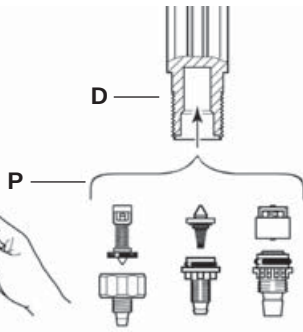

Fig. 17
- Pull downwards to remove the suction valve assembly (**Fig. 17**).
- Rinse copiously the different parts with clean water, re-assemble them (**Fig. 17**).
- Put the valve back (**Fig. 17-P**) in the doser body (**Fig. 17-D**), push it in the back.